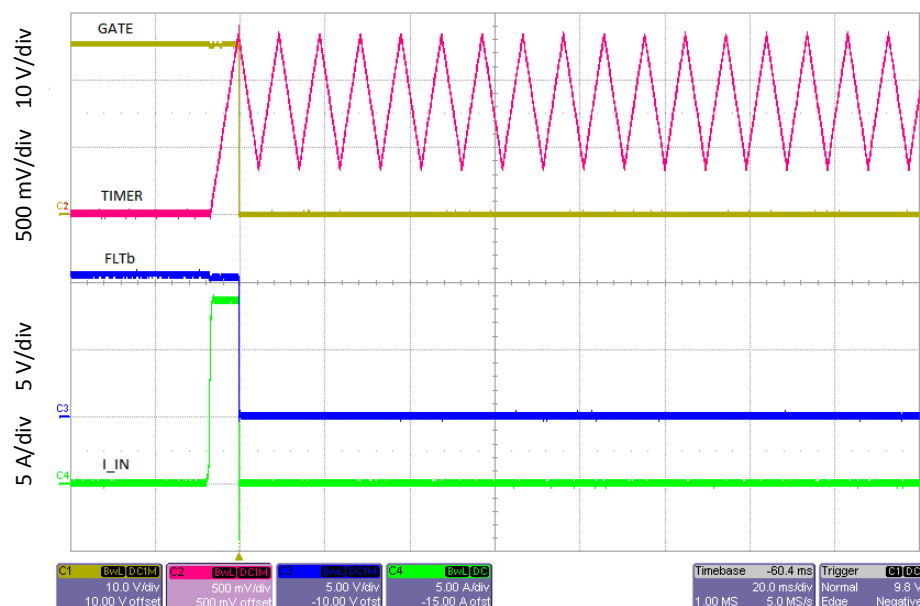

Figure 41. Latch After Overload Fault
- In latch mode (TPS24750, TPS24752), the TIMER pin continues to charge and discharge the attached capacitor periodically until device is disabled by UVLO, EN, or OV, as shown in Figure 41.